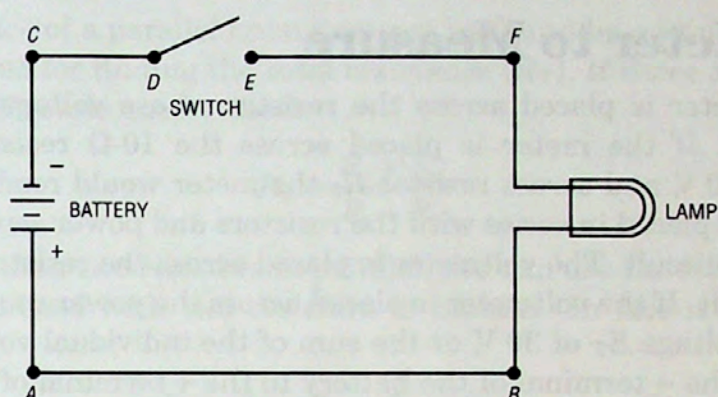

Figure 2-8. A simple circuit with a switch.
The *complete* circuit is necessary for the controlled flow or movement of electrons along a conductor (see Figure 2-8). A complete circuit is made up of a source of electricity, a conductor, and a consuming device. This is the simplest of circuits. The flow of electrons through the consuming device produces heat, light, or work.
1. Connect one side of the power source to one side of the consuming device: A to B. (See Figure 2-8.)
2. Connect the other side of the power source to one side of the control device, usually a switch: C to D. (See Figure 2-8.)
3. Connect the other side of the switch to the consuming device it is supposed to control: E to F. (See Figure 2-8.) When the switch is closed the circuit is complete.